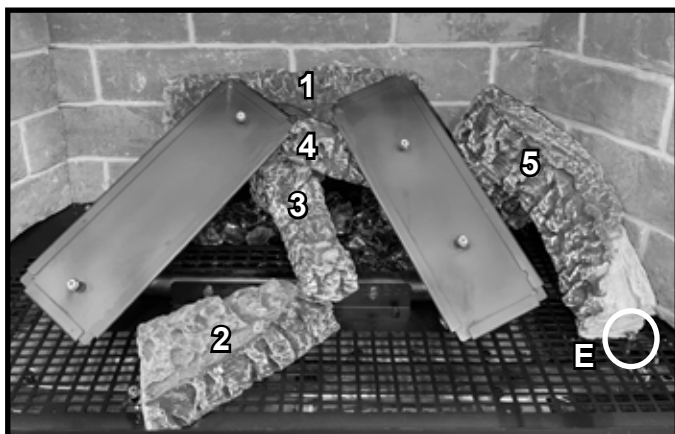

Figure 10 Log #5 Installed
**LOG #5:** Place Log #5 against Log Pin E and on the flat area of Log #4 as shown in Figure 10.